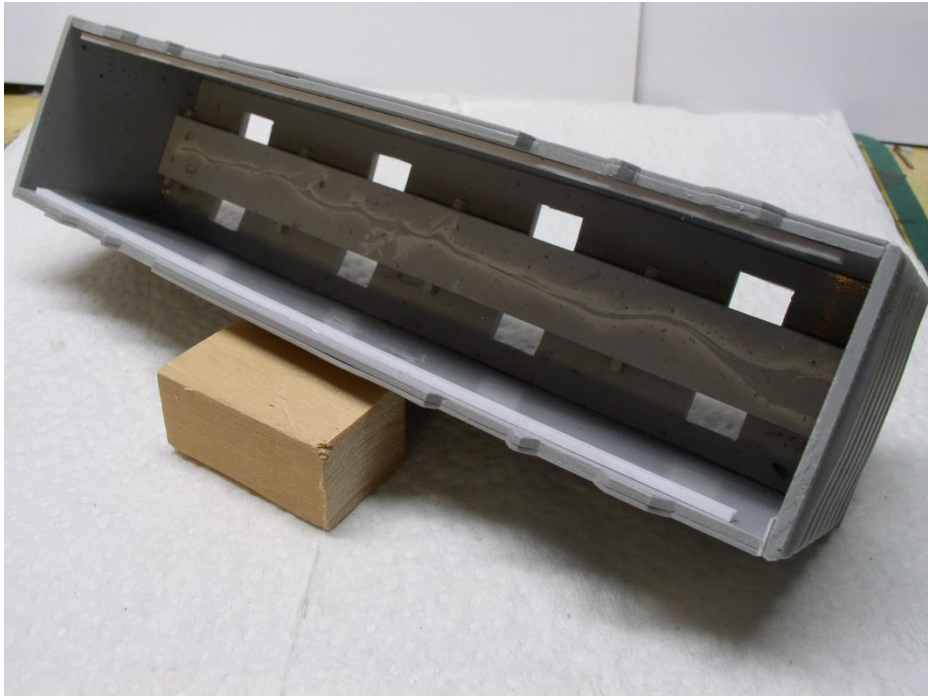

Figure BD3
4. Glue the other end on to form the main body. See Figure BD3.